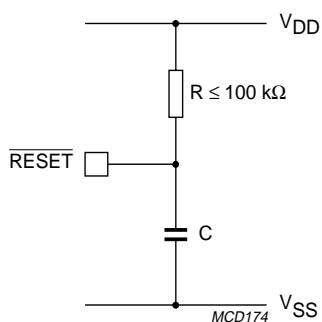

Fig.4 External components for RESET pin.
- If  $V_{DD}$  has a slow rise time, such that after the time period  $(t_{Vref} + t_d)$  has elapsed the supply voltage is still below the minimum operation voltage ( $V_{min}$ ), external components are required (see Figs 4 and 7). To guarantee a correct reset operation, ensure that the time constant  $RC \geq 8 \times t_{VDD}$ .